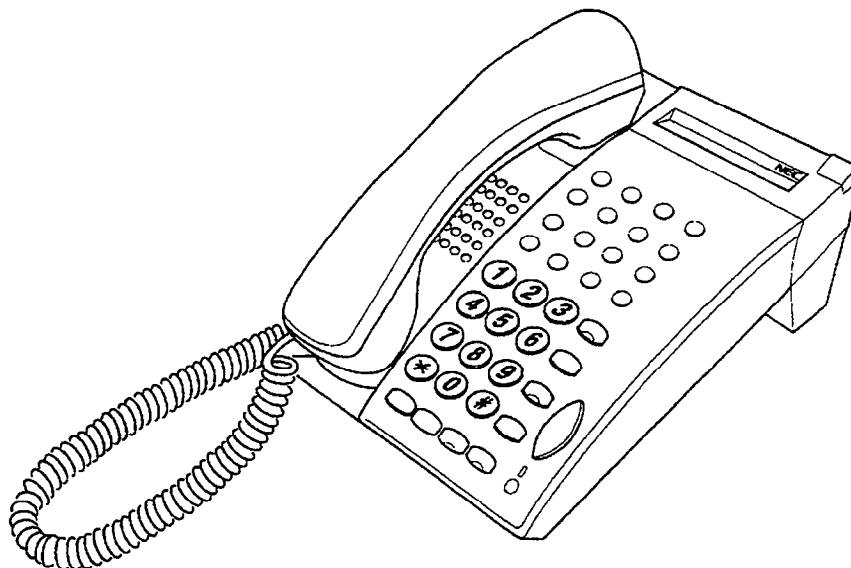

Figure 4-34 DTU-16-( ) (BK)/(WH) TEL
This non-display digital multiline terminal has 16 programmable line keys (each with a two-color LED), built-in speakerphone, a built-in headset jack, a Large LED to indicate incoming calls and messages, and compatibility with the ADA-U, APR-U, and HFU-U Units. Refer to Figure 4-34 - DTU-16-( ) (BK)/(WH) TEL.